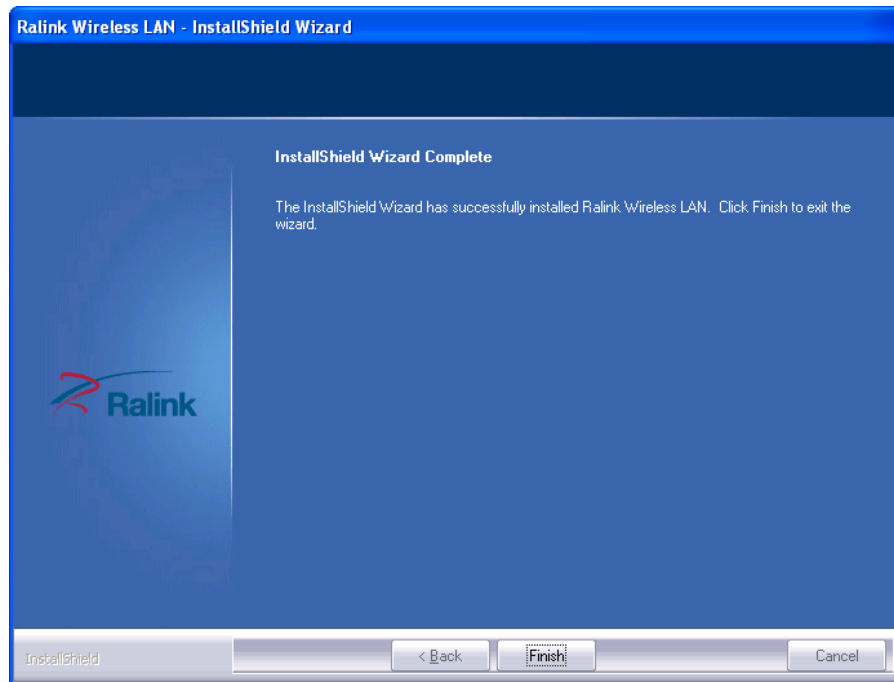

Figure 1-6: Installation Complete
Step 12: When the driver installation is complete, the screen in **Figure 1-6** appears.